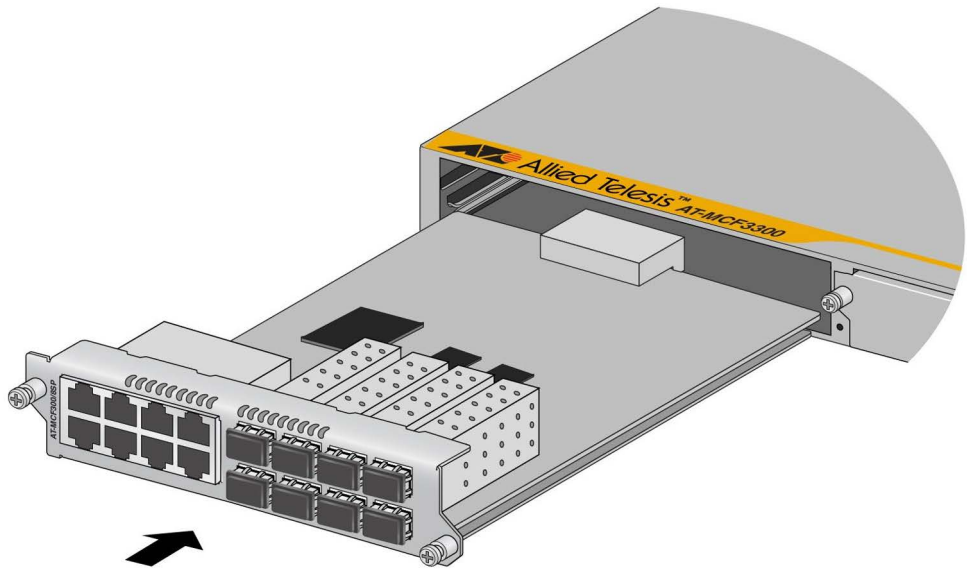

Figure 30. Sliding a Media Converter Module into the Chassis
4. Align the edges of the module with the guides in the slot and carefully slide the module into the chassis until it makes contact with the backplane connector in the chassis. Refer to Figure 30.